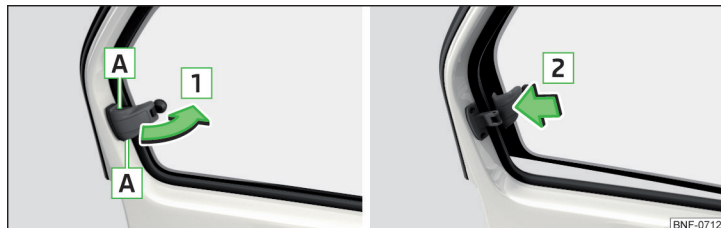

Fig. 37 Opening/closing rear windows
- Grasp the safety lock in recess **A** » Fig. 37.